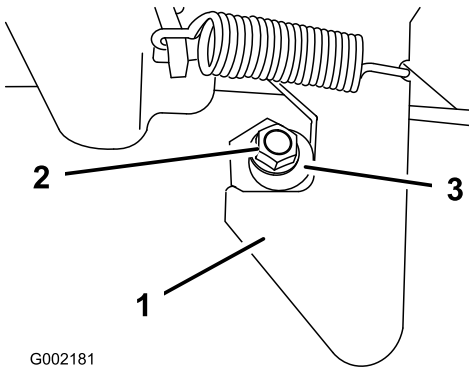

Figure 50
1. Loosen the locknut on the end of the latch post (Figure 50).
2. Rotate the latch post clockwise until it is snug against the hook portion of the latch (Figure 50).